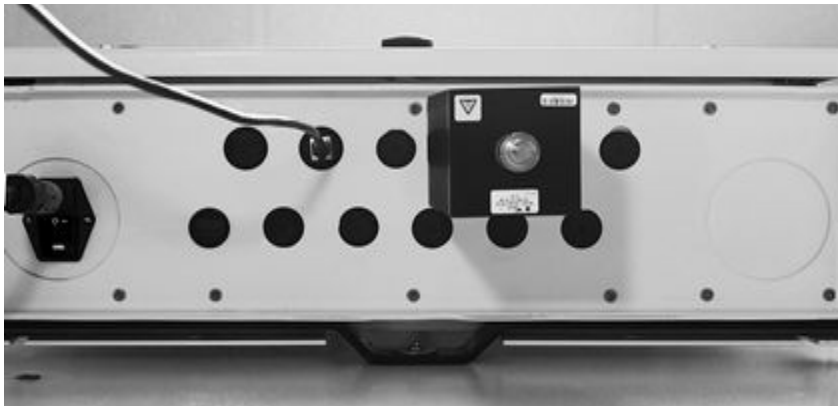

*Figure 4. Synthesizer-Transmitter Unit, door open.
1. open enclosure and verify that the frequency of the low-pass filter fitted (figure 4) corresponds to the factory-configured frequency marked on the label (figure 3).
2. verify that all breakers are off in the down positions (figure 4).
9. enable the power surge suppressor by flipping its breaker to the up position (lower DIN rail, figure 4).
10. enable the power supplies by flipping all remaining breakers in sequence from right to left to the up position (middle DIN rails, figure 4).
6. disable the power supplies by flipping all breakers in sequence from left to right to the down position (middle DIN rails, figure 4).